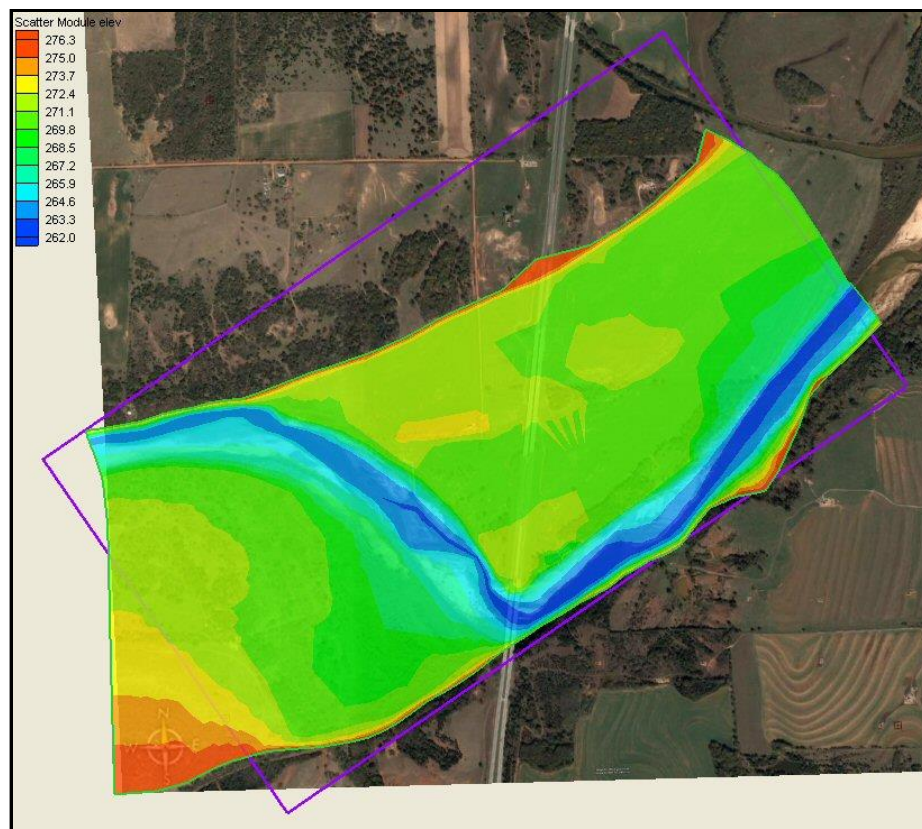

Figure 1 Creation of the Grid Frame
5. Create a grid frame around the area shown in Figure 1 by clicking on three of the corners. The size and positioning of the frame will be adjusted later.
- Drag the handles on each side and corner of the grid frame to adjust the size of the grid frame to closer approximate the grid frame in Figure 1.